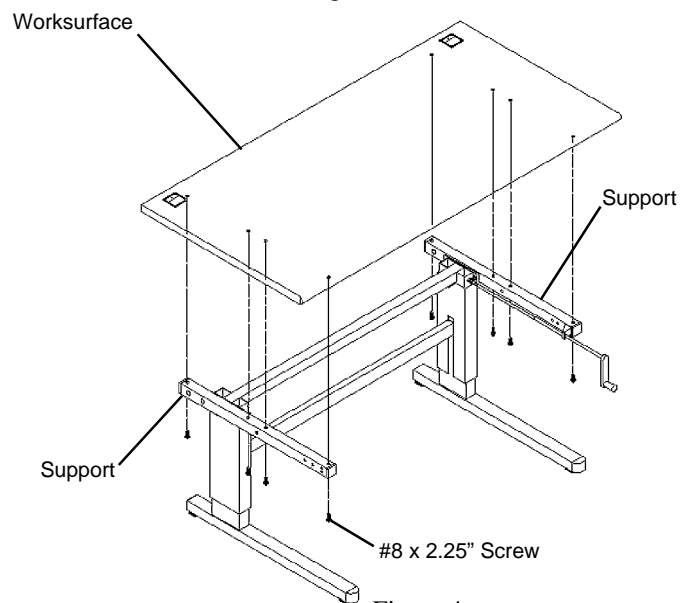

Figure 4
4. Place the **Worksurface** on the Top Supports. Align the holes in the Supports with the holes in the bottom of the Surface. Attach the Surface to the Supports using the eight **#8 x 2.25"** screws provided. See **Figure 4**.